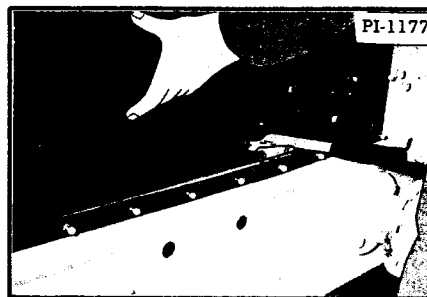

Fig. 84 Removing Lower Jackshaft
8. Insert the over-center tank spreader to spread the gearcase panels enough so the assembly can be removed (Figure 84).
9. Grasp the assembly and remove it from the machine by pulling forward and up (Figure 84).
1. Carefully install the assembly into the gearcase (Figure 84). Use an overcenter tank spreader to spread the sidewalls of the tank and make installation of the lower jackshaft possible.